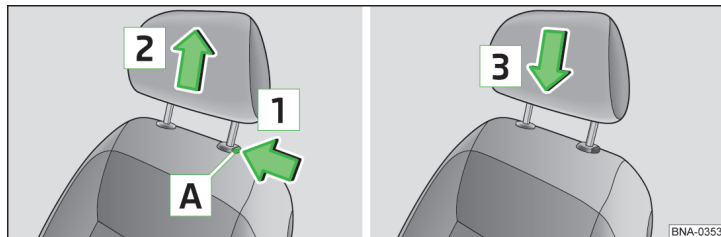

Fig. 44 Removing/installing the headrest
- › Press locking button **A** in the direction of arrow **1** and pull out the head restraint in the direction of arrow **2** » fig. 44.